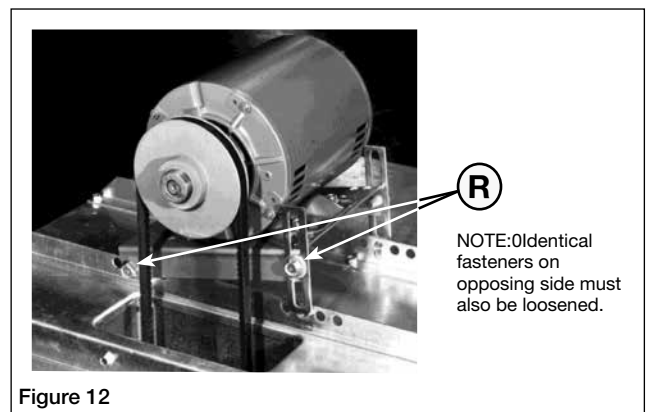
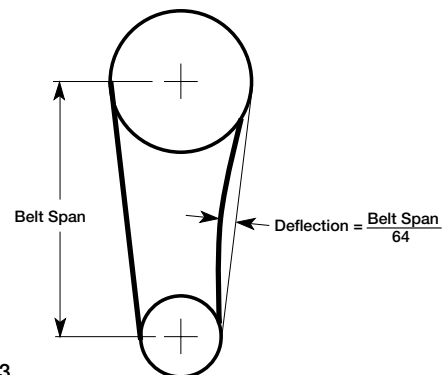

Figure 12
Figure 13
5. **For Belt Drive Fans:** Belt tension can be adjusted by loosening four fasteners marked "R" on the drive frame. (Refer to Figure 12). The motor plate slides on the slotted adjusting arms. Belt tension should be adjusted to allow 1/64 inch of deflection per inch of belt span. For example, a 15 inch belt span should have 15/64 inch (or about 1/4 inch) of deflection with moderate thumb pressure at mid-point between pulleys (see Figure 13). Over-tightening will cause excessive bearing wear and noise. Too little tension will cause slippage at start-up and uneven wear.
Belts too tight or too loose	Adjust tension, see Figure 12.